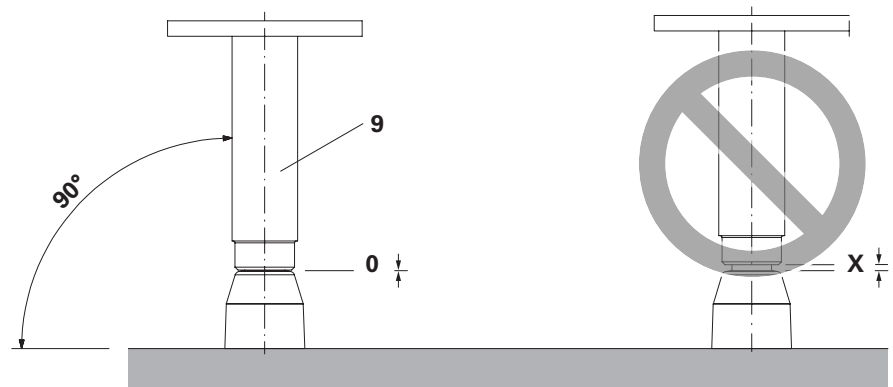

Fig. A3.05
4. Screw in Anchor Sleeve M24 (**9**) as far as possible, at 90° to the formwork panel. (Fig. A3.05)